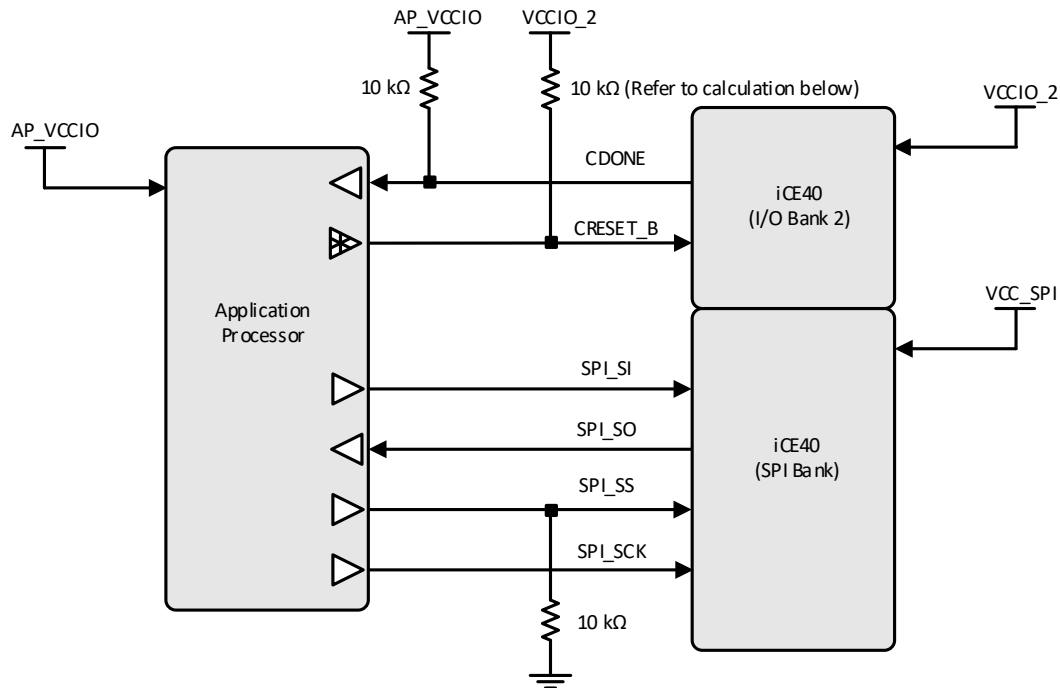

Figure 13.1. iCE40 SPI Slave Configuration Interface
Using the SPI slave configuration interface, an application processor (AP) serially writes a configuration image to an iCE40 FPGA using the iCE40 SPI interface, as shown in Figure 13.1. The iCE40 SPI configuration interface is a separate, independent I/O bank, powered by the VCC_SPI supply input. Typically, VCC_SPI is the same voltage as the application processor I/O. The configuration control signals, CDONE and CRESET_B, are supplied by the separate I/O Bank 2 voltage input, VCCIO_2.
As shown in Figure 13.1, there are potentially three different supply voltages involved in the SPI Peripheral interface, described in Table 13.2.